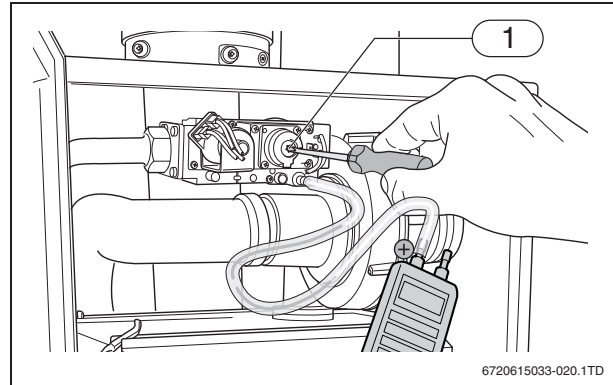

Fig. 19 Setting the gas/air ratio
- ▶ Adjust the gas/air ratio, if not correct, using the adjustment screw (→ fig. 19, [1]). The adjustment screw is located behind the cover screw.